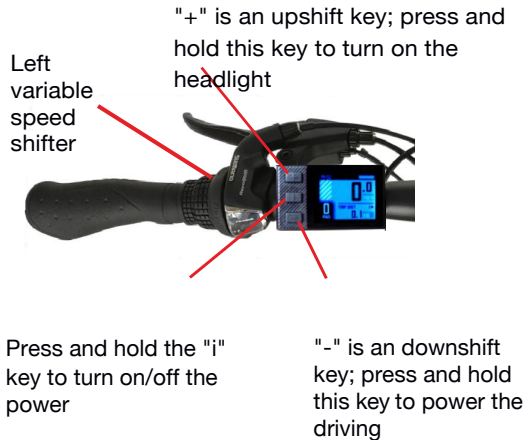

Figure 3 (left handlebar)
- 2.Turn on: Referring to Figure 3, press and hold the "i" key to turn on/off the power.
- 4.Headlight: Referring to Figure 3, press and hold the "+" key to turn on/off the headlight.